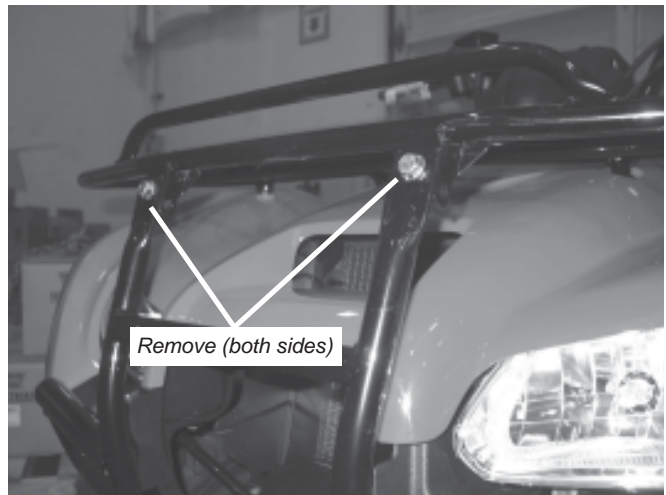

Figure 5 Remove Top Bumper Bolts
- Remove the two top 8mm bumper bolts that attach the front bumper to the front rack, figure 5. Save the fasteners as they will be used to reinstall the front bumper.